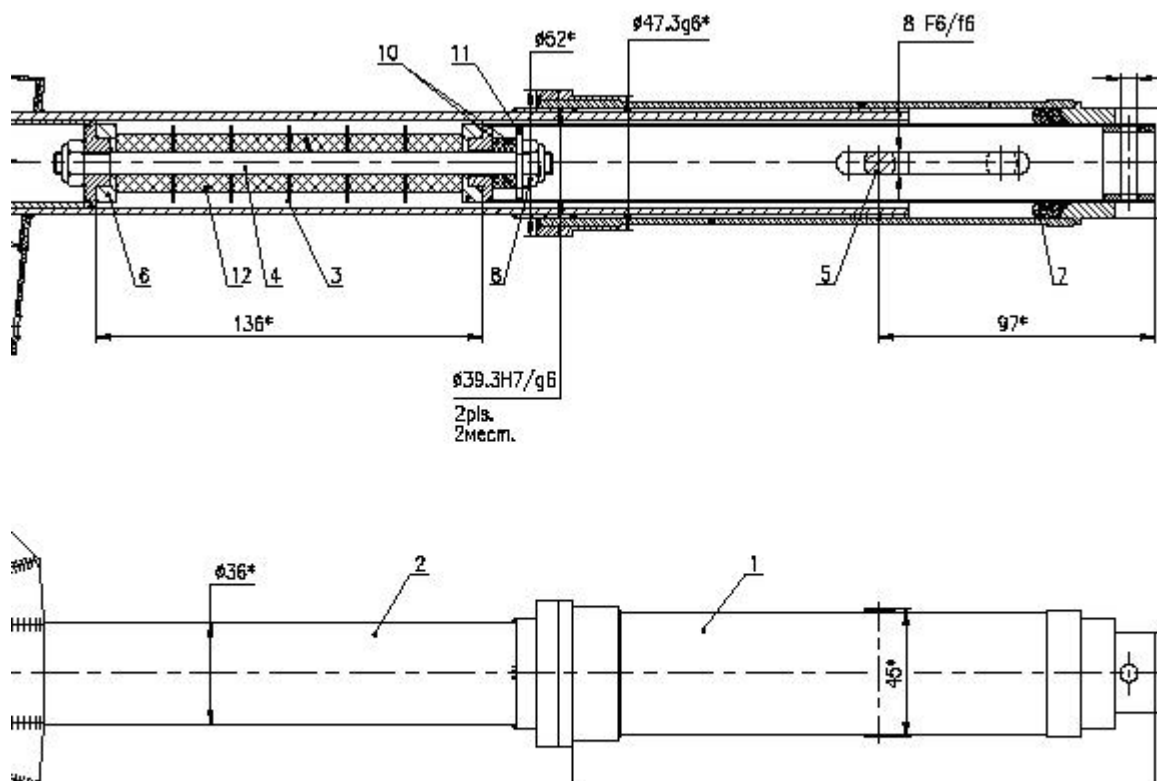

Fig. 4
- Take out the pin (KA4010101) (pos. 5, Fig. 4). Make sure there is no play between the pin (KA4010101) and the slot in KA4010110 Rotating body (pos. 2). Replace the pin (KA4010101) if necessary.
- Unscrew the upper nut (C9996336 Self-locking nut DIN 985-M8, regular) (pos. 8) by 2 screwdrivers with header 13 mm.
4. Make sure of integrity of the Polyurethane Damper Elements (Urelastfeder 90 Shores (red 25/10,5 mm. X 20 mm)) (pos. 12). Replace if necessary
13. Stack the polyurethane damper elements to the pin axle (pos. 4) as follows: support (pos. 6) flat surface facing the first polyurethane element, 6 polyurethane elements separated each by a washer (pos. 3), support (pos. 6) (flat surface facing the last polyurethane element). See Fig 4.
15. Assemble the shock absorber by running items 1 through 3 in reverse order. Tighten the nut C9996336 (Self-locking nut DIN 985-M8, regular) 200 lb-in / 22.5 Nm.